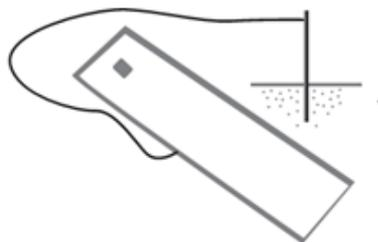
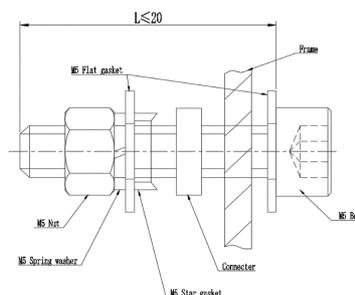

Figure 9 Module grounding circuit
Figure 10 Installation diagram of grounding bolt
**4.1.3** The aluminum frame and support of the module must be grounded, as shown in Figure 9. Each module has a grounding hole and is marked on the frame (it is recommended that the series / parallel connection of each module must be grounded once). The installation method of grounding bolt is shown in FIG. 10. The grounding wire and frame can be reliably grounded by the prepared grounding hole. And the flat washers, spring washers and nuts are matched by installing bolts M5 × 10 ~ 15. The modules and the earth wire shall be perfectly connected by connecting plugs. Negative grounding inverter can be installed to prevent PID phenomenon.